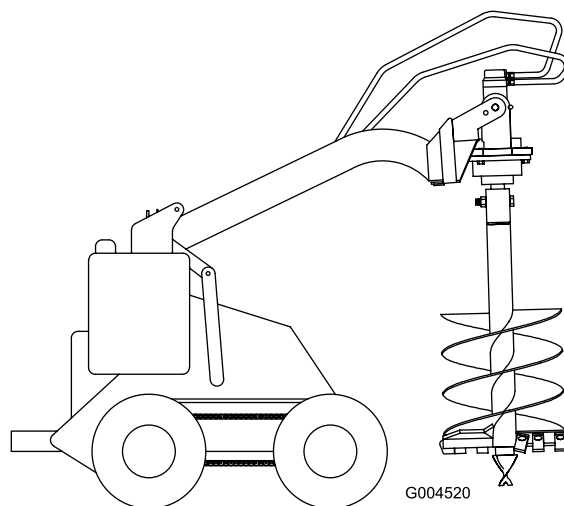

Figure 9
13. Raise the auger free of the ground (Figure 9).
14. When the auger is vertical, tilt the attachment plate rearward until the drive head contacts the attachment plate to stabilize the auger and keep it from swinging freely (Figure 9).
1. Raise the auger so that it clears the ground and is vertical (Figure 9).